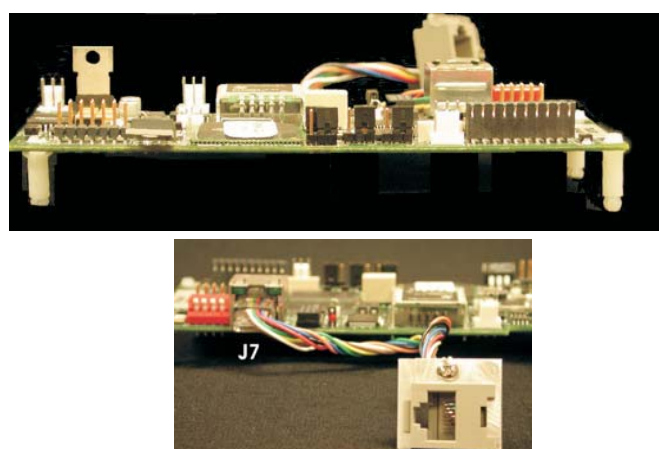

Figure 4. The placement of the spacer and screw position on the RVON-1 card for the KP-812 series keypanels.
2. Mount the supplied spacers (there are three) on the RVON-1 card. See figure 4.
6. Connect the Ethernet connector to the RVON-1 card, see figure 4.